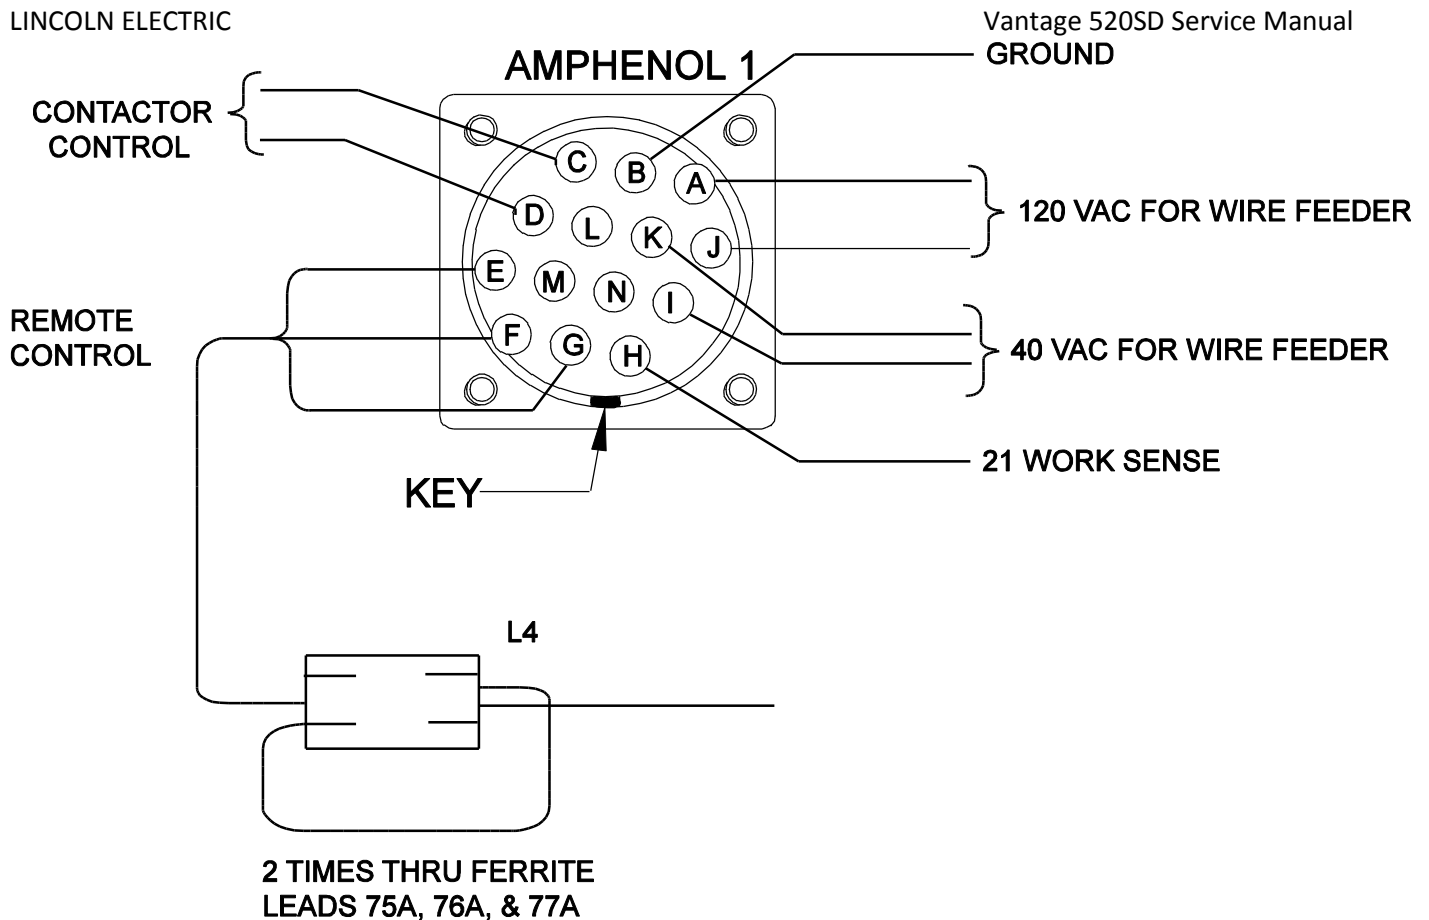

Figure F.11
2. For the upper receptacle, place the probes directly into receptacle, or connect to leads #3D and #5A. See **FIGURE F.11. SEE WIRING DIAGRAM.** For the lower receptacle, place the probes directly into the receptacle, or connect to leads #6E and 5B. **SEE FIGURE F.11. SEE WIRING DIAGRAM.**
1. Connect the meter probes to leads #6F and #3E where they connect to the 120/240VAC receptacle, or insert the probes into the 240 VAC connection slots in the front of the receptacle. **SEE FIGURE F.11. SEE WIRING DIAGRAM.**
1. Connect the voltmeter probes to pins "I" (lead 41A) and "K" (lead #42A) of the 14 pin Amphenol. **SEE FIGURE F.11.**